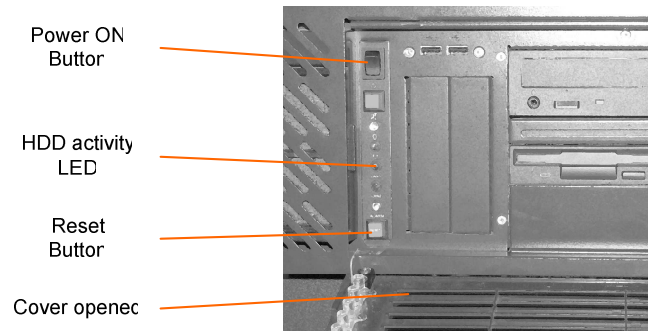

Figure 1.22: Cover in open state and “Power” button.
- Open protective cover on control computer with computer case key and press "Power" button for a short time. (Figure 1.22)